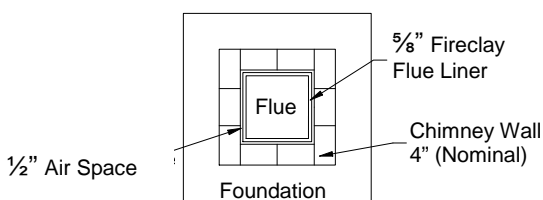

Fig. 9 Masonry Chimney Construction
2. The chimney must have a fire clay flue liner (or equivalent) with a minimum thickness of 5/8 inch and must be installed with refractory mortar. There must be at least 1/2-inch air space between the flue liner and the chimney wall (Fig. 9). An equivalent liner might be a listed chimney liner system or other approved material.